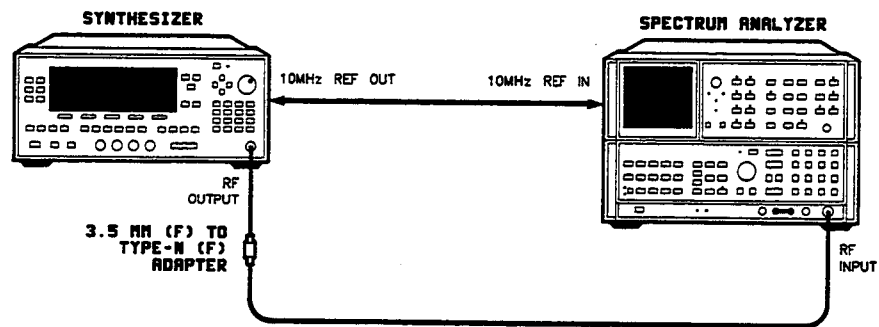

Figure 2-13. Alternate Phase Noise Test Setup
1. Connect the equipment as shown in figure 2-13. Preset the equipment and let them warm up for at least one hour.